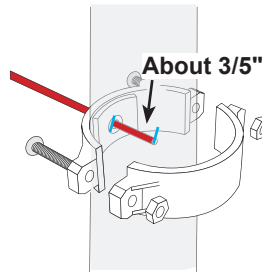

Figure 7
2. Slip the front plate to one end of the tubing (without mark), and insert the tubing into the drilled hole up to about 3/5" (Figure 7);